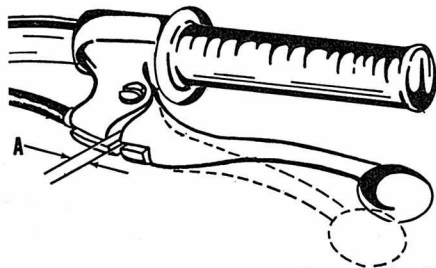

Fig. S13-7—Clutch cable adjusters should be turned to obtain 5/32 inch free play at (A).
**CLUTCH CONTROLS.** Turn adjusters on clutch control cable to obtain  $\frac{3}{8}$  inch (4 MM) free play in lever (A—Fig. S13-7).